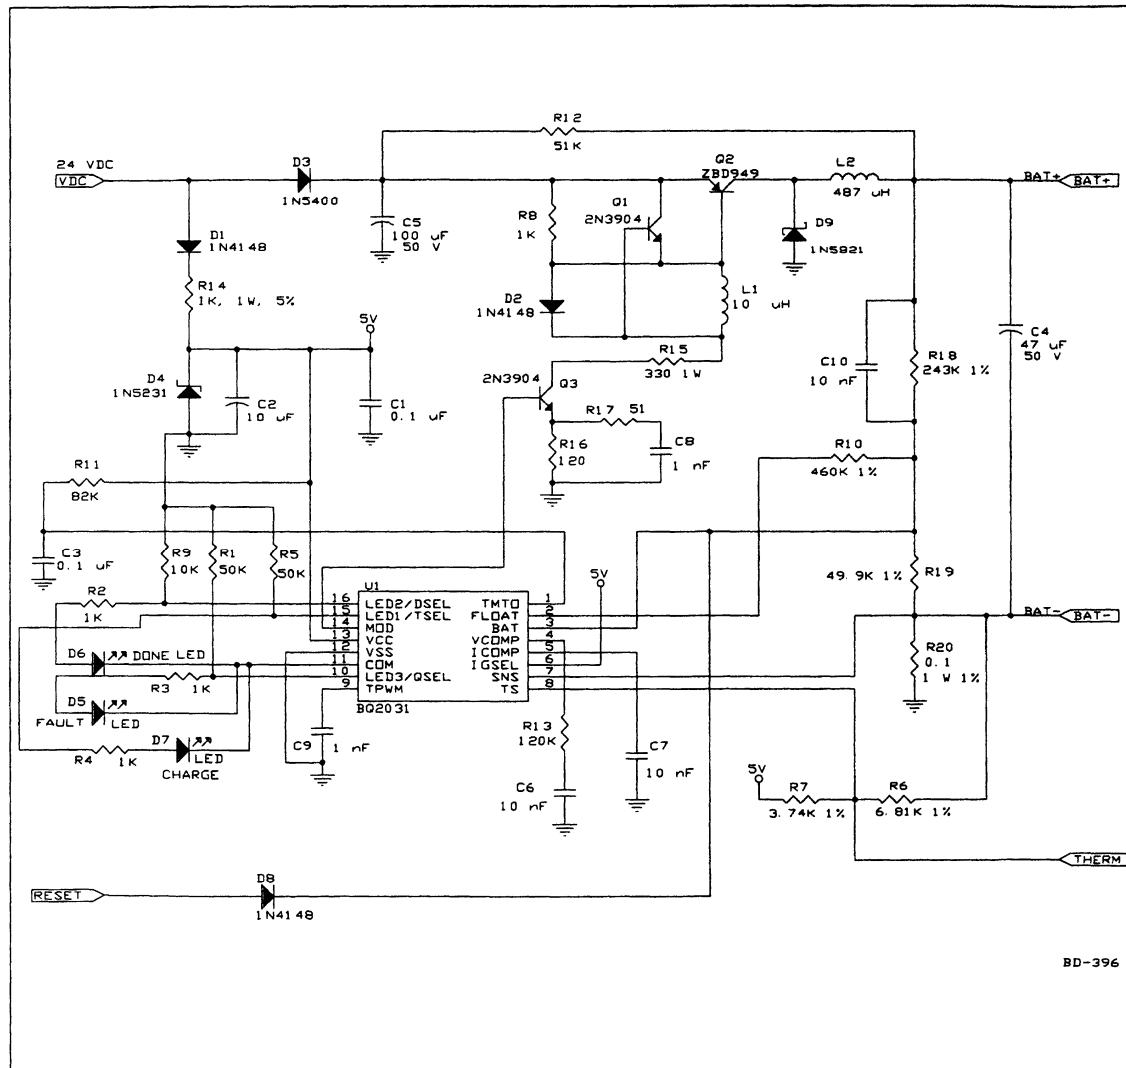

Figure 15. Example Schematic of a Single-Ended Buck Topology Charger Using the bq2031
6. Minimize loop area in paths with high pulsating currents. In the example in Figure 15, this loop is formed by D9, Q2, and C5.
Voltage regulation occurs during phase 2 of the Two-Step Voltage fast charge algorithm and in battery qualification test 1 which precedes all three algorithms. The time-out period of this test ( $= 0.02 \cdot \text{MTO}$ ) is at least 1.2 minutes and may be as long as 28.8 minutes. Unless waiting through this period before detecting battery removal is acceptable, the pull-up is required in the purely current regulated algorithms as well. A diode should also be installed in the path of the pull-up to prevent the power supply from draining the battery when the supply is turned off. Refer to resistor R12 and diode D3 in the example design in Figure 15.
The final schematic (see Figure 15) uses a low VCE (sat), high-gain, high-bandwidth PNP transistor (Q2) as the switching device in a single-ended buck topology powered from a DC supply of 24 V.